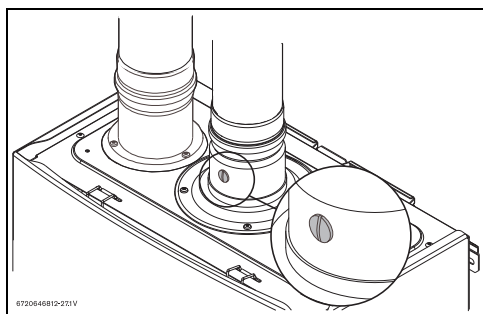

Fig. 60 Measuring port
- ▶ Remove brass flat head screw on the exhaust collar as seen in fig. 60.